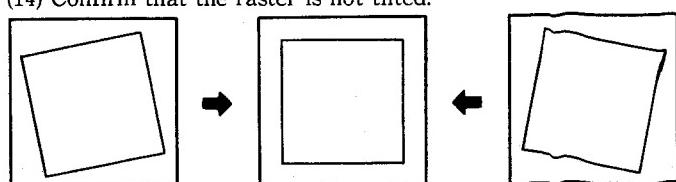

Fig. 5
5. Bring the landing sensor into contact with the portion where the cursor is displayed at the center of the screen and click the button on the landing sensor. The cursor will move automatically from [1] to [7] in sequence as shown in Fig.5, so repeat the adjustment seven times in the same manner.